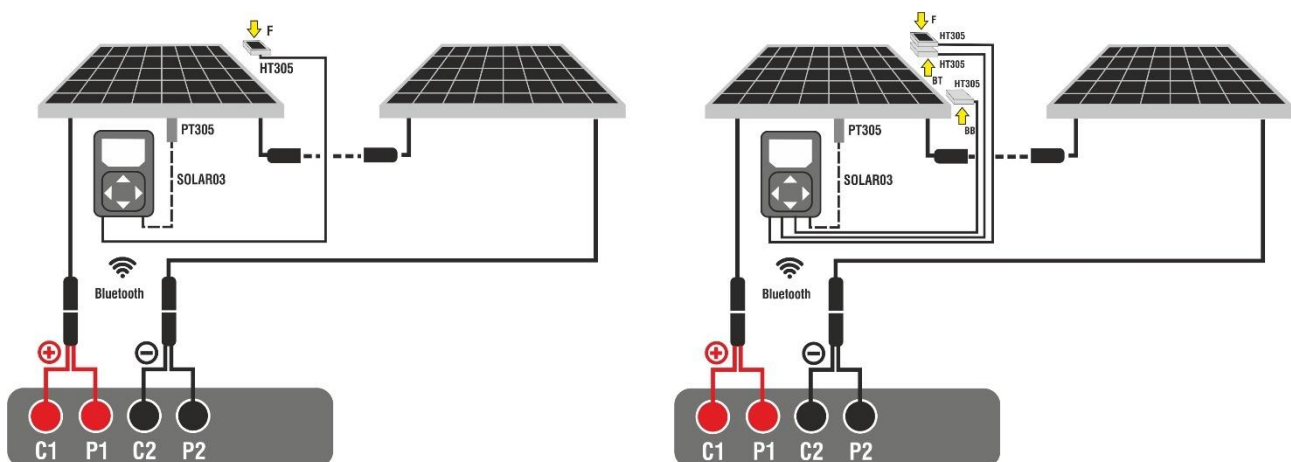

Fig. 39: Connection with remote unit SOLAR03 on Monofacial and Bifacial modules
3. Connect the instrument and the SOLAR03 remote unit to the module/string being tested as shown in Fig. 39. In detail:
- **In case of Bifacial modules** →, position the **three HT305 reference cells** on the front surface of module (**F**), on the top back section (**BT=BackTop**) and on the bottom back section (**BB=BackBottom**) of the module. Connect the front reference cell (F) to input "INP1", BT reference cell to input "INP2", BB reference cell to input "INP3" and **possibly** the temperature probe **PT305** to input "INP4" of the remote unit.